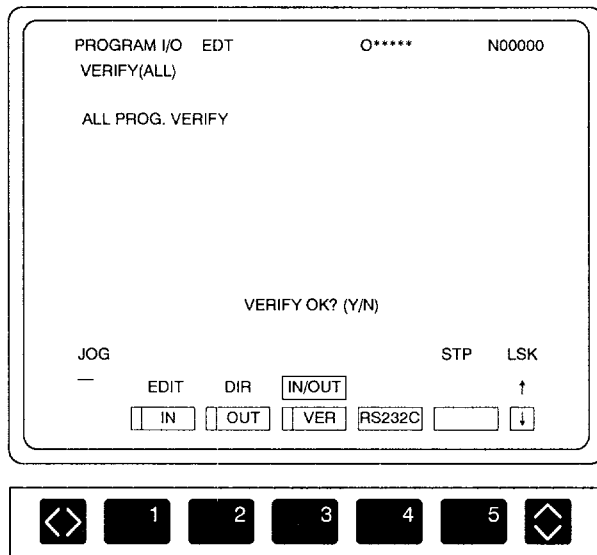

Fig. 4.47 All Program Verify Screen
- ⑤ The “ALL PROG. VERIFY” message is displayed, and the message “VERIFY OK? (Y/N)” is displayed.
- ⑥ Verification is started and the list of the part programs (input from the tape) to be compared with the part programs stored in the NC memory is displayed on the screen.
- If inconsistency is found between the contents of the part programs stored in the NC memory and the contents of the one input from an external device, the screen changes as shown in Fig. 4.47 and inconsistent parts are highlighted.